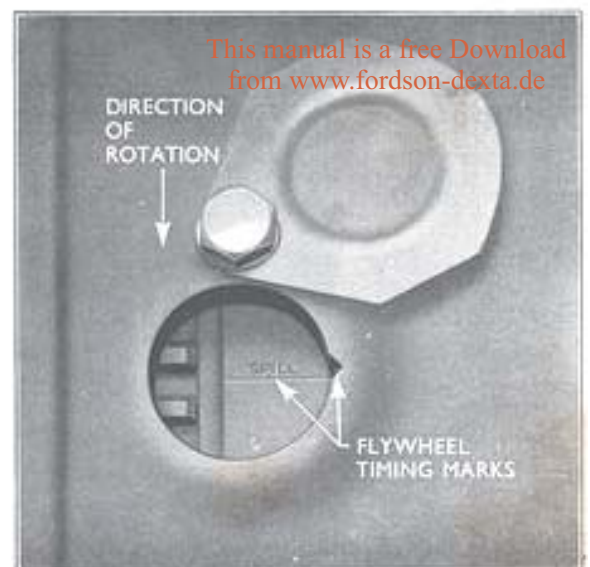

Fig. 6
1. Remove the flywheel inspection plate located on the left-hand side of the clutch housing and turn the engine crankshaft until the line marked " SPILL " on the flywheel corresponds with the notch in the clutch housing, with No. 1 piston on its compression stroke (see Fig. 6).